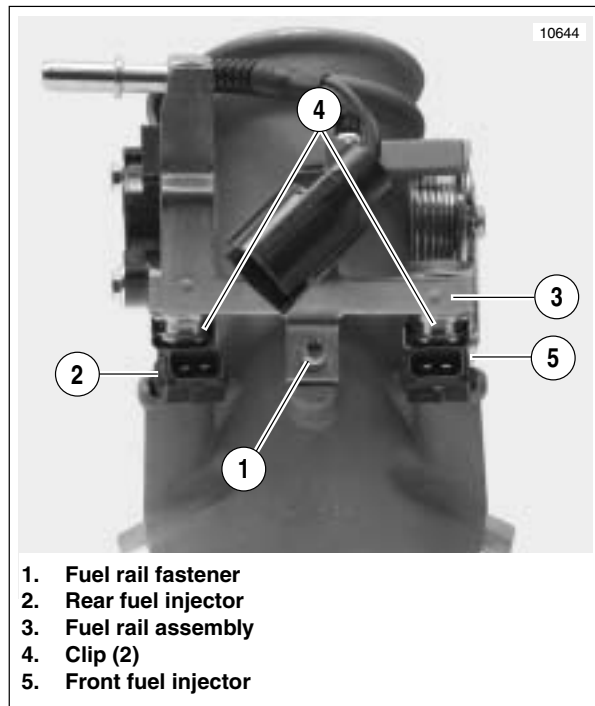

Figure 4-104. Fuel Injectors
- a. See Figure 4-104. Remove both injector clips (4).
- b. Remove fuel rail fastener (1) that holds the fuel rail to the throttle body and manifold.
6. See Figure 4-104. Install fuel injectors.
- b. Press the fuel rail assembly (3) onto the top of the injectors.
- c. Apply a drop of LOCTITE 271 (red) to threads of fuel rail fastener (1).
7. Snap the injector clips (4) over the flange on the fuel rail outlet and into the top groove in the injector.